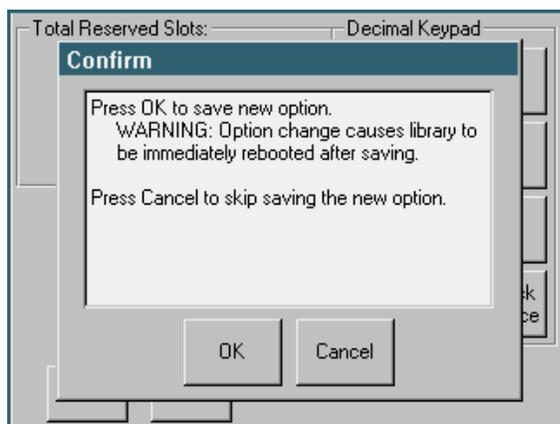

Figure 4-9: Total Reserved Slots Confirm Dialog Box
- At the Confirm dialog box (Figure 4-9), press either **OK** to accept or **Cancel** to discard the change.